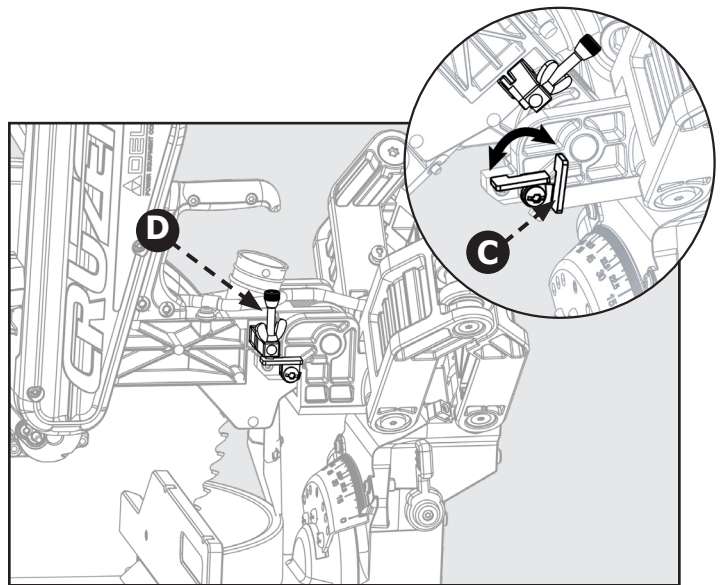

Figure 33
Refer to Figure 33 and follow these instructions in order to set the depth stop at a specific cut depth: rotate the stop bracket (C) counterclockwise into the down position. The cut depth can now be adjusted by turning the depth adjustment screw (D).
Refer to figure 33 and follow these instructions in order to make a through cut: rotate the stop bracket (C) clockwise into the up position.